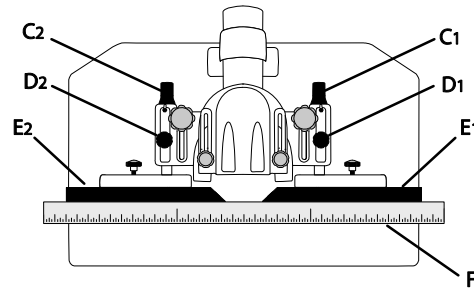

Figure 7
2. Adjust the *fence assembly* (A) so it is positioned approximately at midpoint and lock (B).
3. Place a *straightedge* (F) on the table pressed against the *infeed* (E1) and *outfeed fences* (E2).
**No adjustment is required** if both fences are flush with the straightedge as shown in Figure 7. Proceed to *Ram Dial Calibration* (step 00).